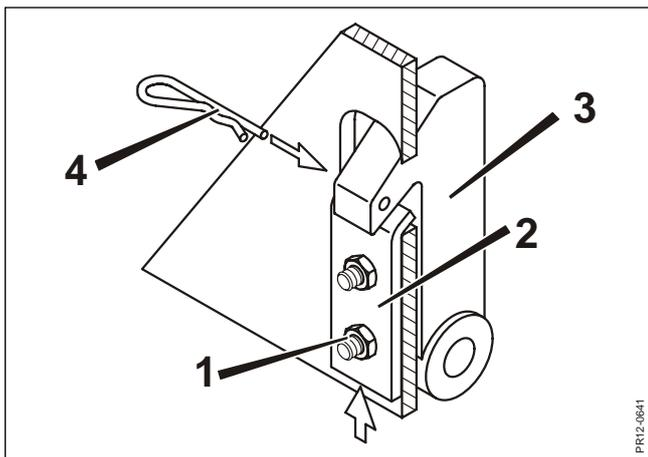

Fig. 2-3
- Fig. 2-3** If there is too much clearance between the locking pawl and the latch of the tractor frame, the machine may get disconnected from the tractor during operation or transport.